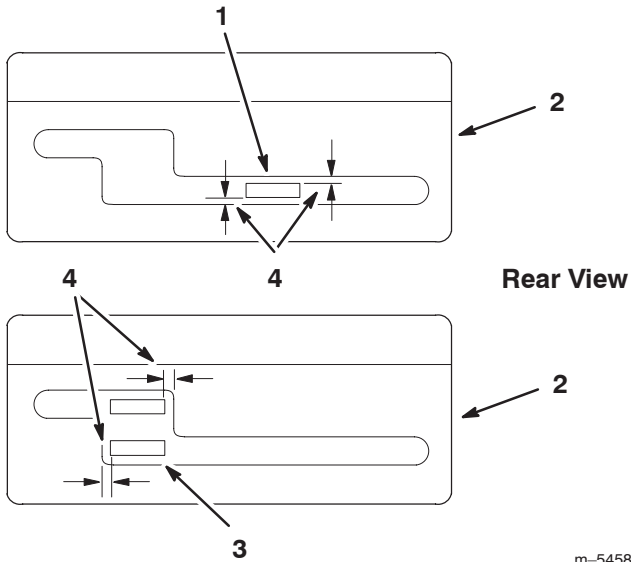

Figure 7
- Shift lever to second gear and check alignment of lever in slot of shifter lever plate. The clearance between top and bottom of the shift lever should be equal (Fig. 7).
- Shift lever to neutral and check alignment of lever in slot of shifter lever plate. The clearance on the sides of shift lever should be equal (Fig. 7).